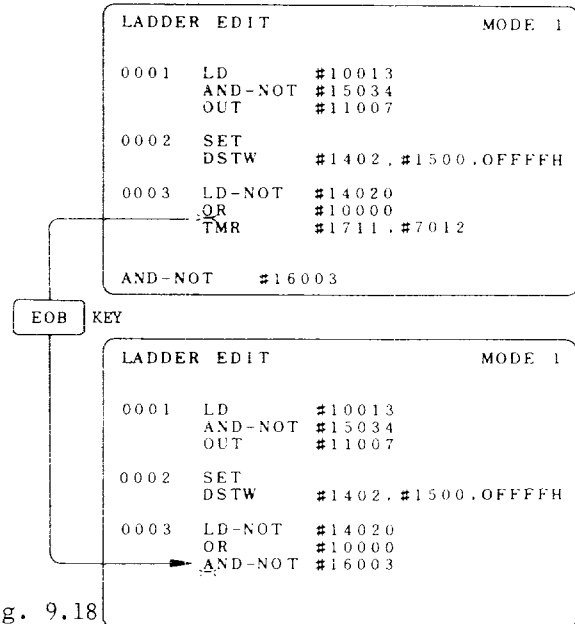

Fig. 9.18
2. Consequently, in the edit operation of par. 9.7.1 (4), the **EOB** key can be used to erase all commands following a specific command (see Fig. 9.18).